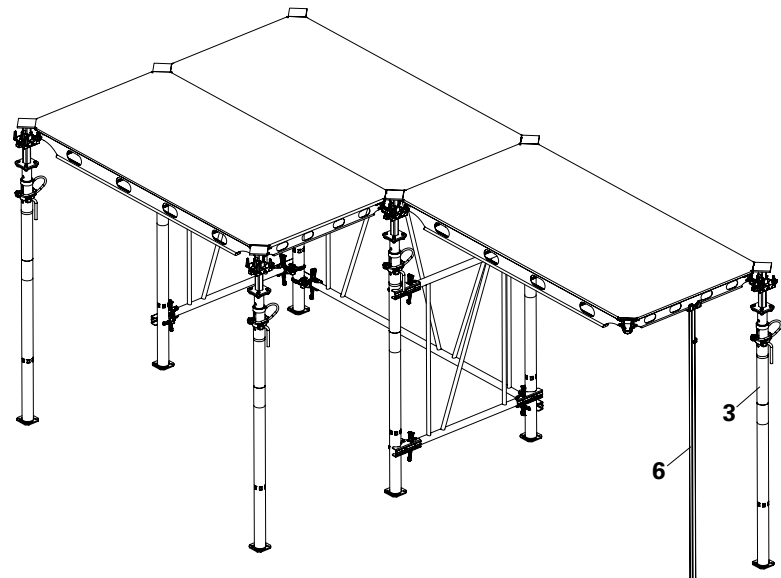

Fig. A4.09
3. While keeping the shuttering aid (6) as a temporary support, attach the next prop (3) to the third corner of the panel (1). (Fig. A4.09)